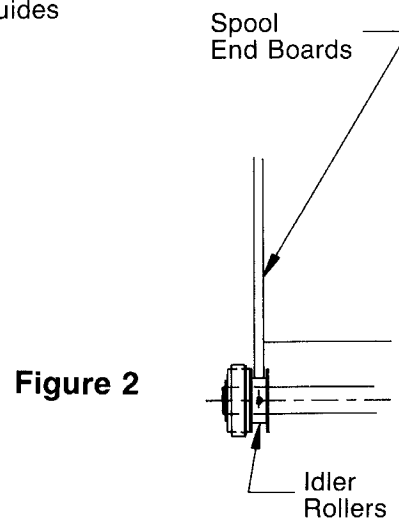

Figure 2
2. Make sure the end boards of the spool are riding between the flanges of the idler roller (See Figure 2). This will place the end boards on the knurled portion of the drive rollers.